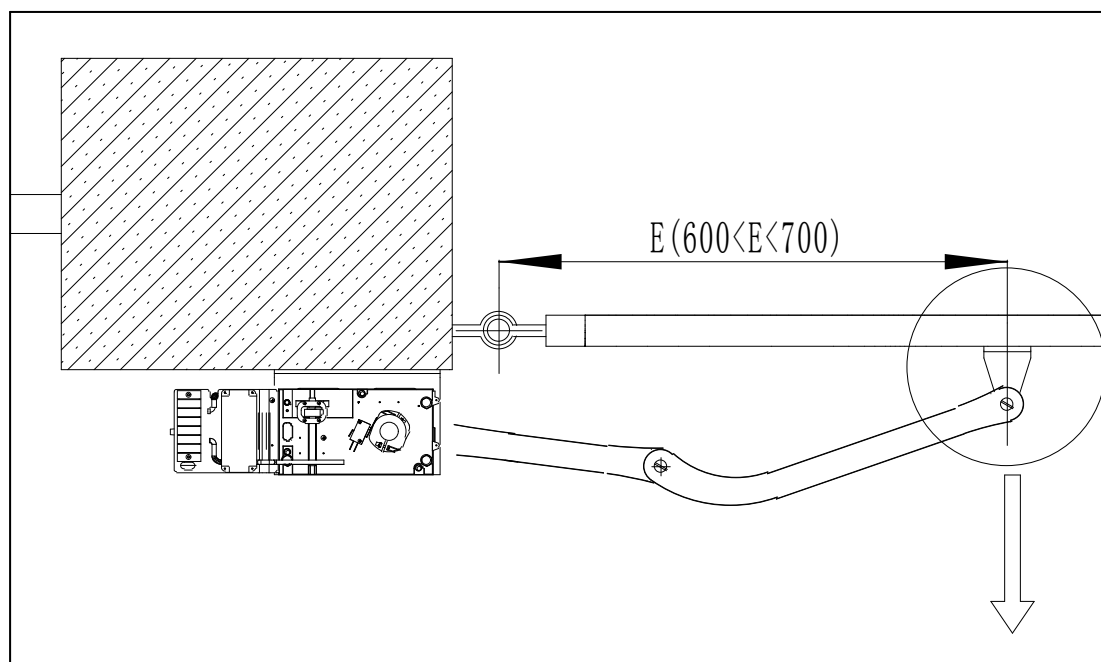

Figure 12
- b) Keep the installation plane of front mounting bracket and the door in good fit. Rotate the crank arm to regulate the position of the front mounting bracket; $600 < E < 700$ mm is recommended for the measurement E (in the Figure 12); meanwhile mark the mounting hole center of the front mounting bracket on the gate frame;